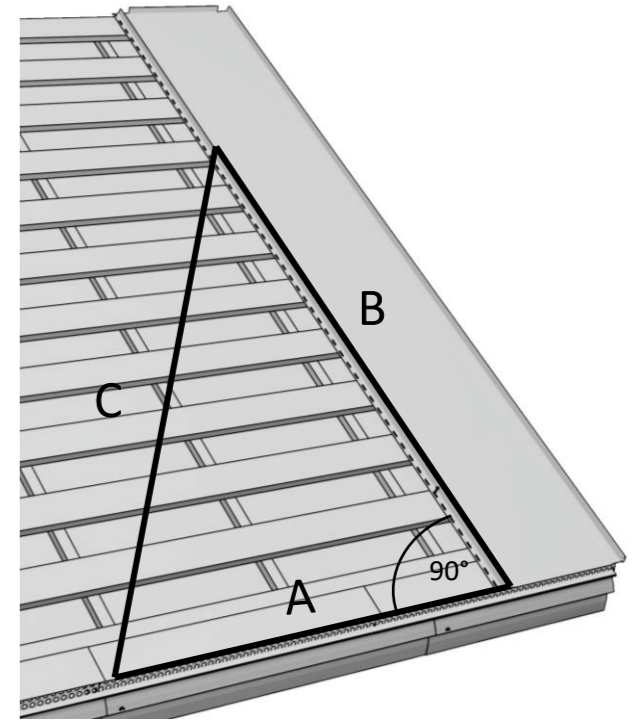

Fig. 27
- in this case the starter strip. Dimension B is to be determined on the sheet/panel. The distance between the spaced ends of A and B should be 5 m. This distance should be achieved by moving the unattached edge of the sheet/panel (Fig. 27).